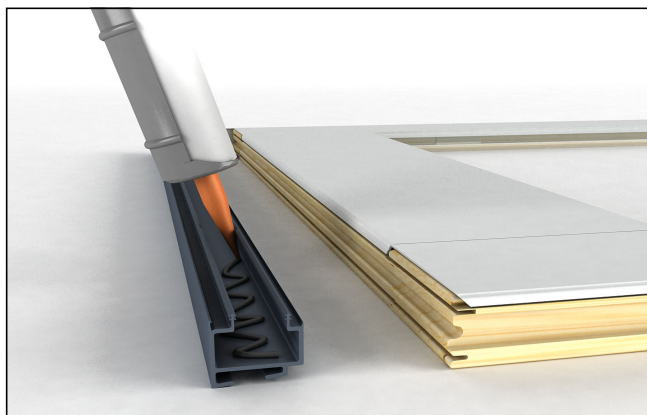

Figure 2
3. Apply the clear *Dow Corning*® 1199 silicone into each end of the leveling block. Also apply a bead along the outer barb where it will be inserted into the kerf of the panel. See figure 2.